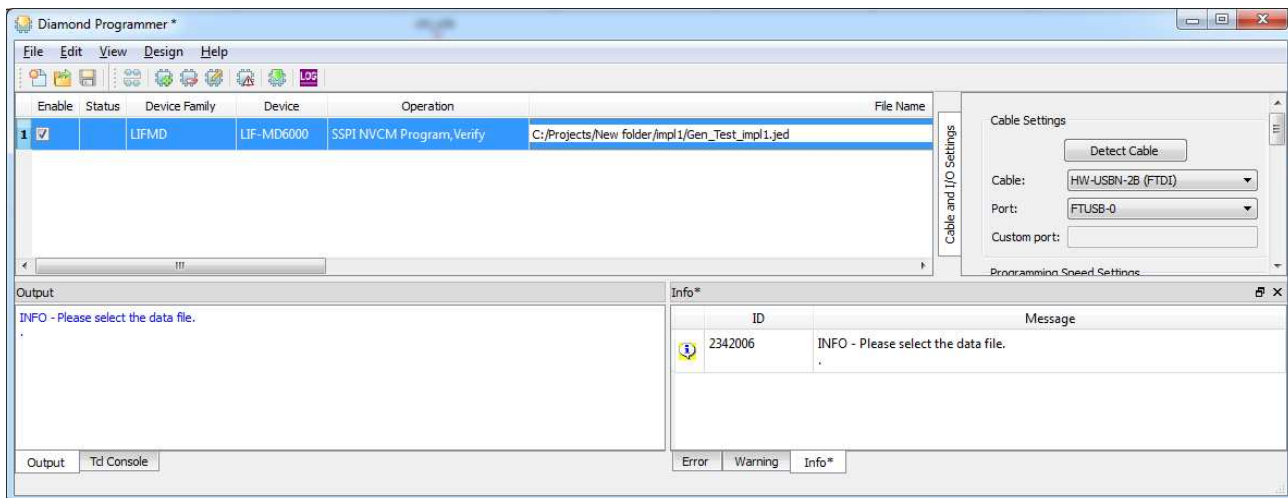

Figure 5.30. CrossLink Family – Select the Programming File
3. Select the programming file that you want to program in the CrossLink device by double clicking the **Browse** button under **File Name** as shown in Figure 5.30.